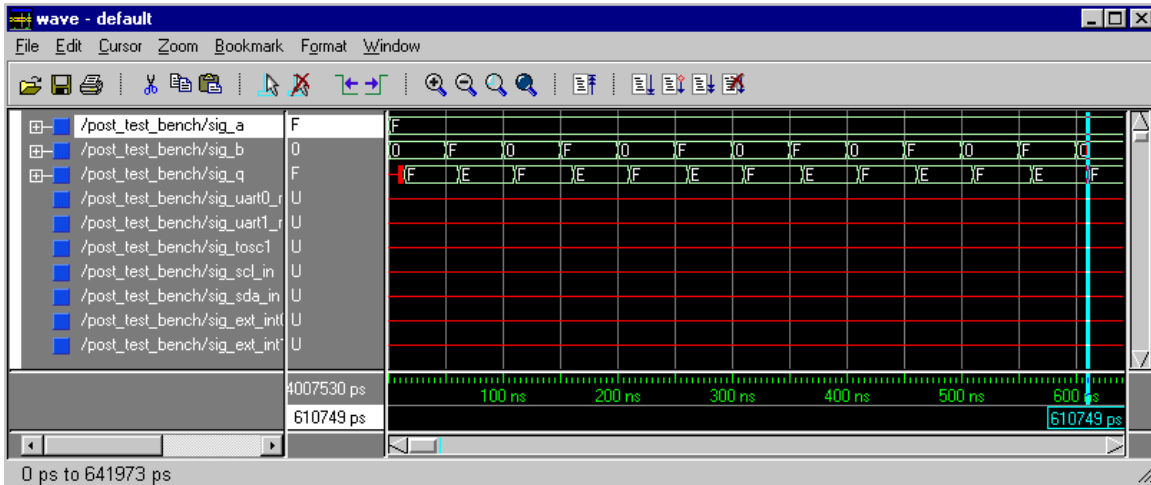

Figure 32 Wave Results
2. Right click and select **Radix** to change the results from binary to hexadecimal or any other form. The final results are as shown in **Figure 32**.